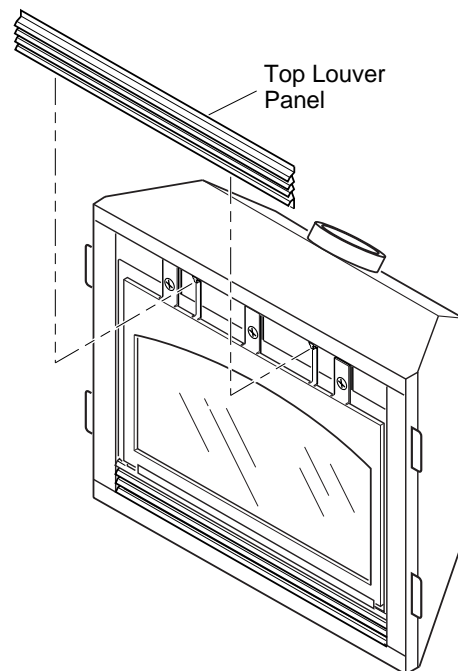

Figure 46 - Removing Top Louver Panel
1. Remove the upper louver panel by lifting upward and out (see Figure 46).